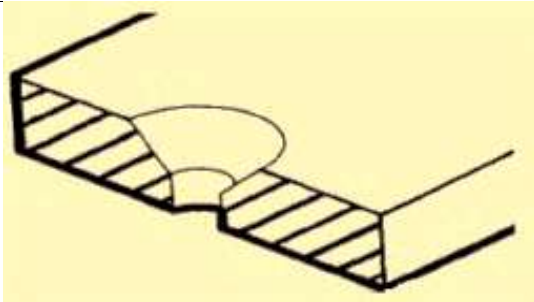

Figure 4-38. Countersunk hole.
**Countersink:** Is the tapering or beveling of the end of a hole with a conical cutter called a machine countersink. Often a hole is slightly countersunk to guide pins which are to be driven into the workpiece; but more commonly, countersinking is used to form recesses for flathead screws (Figure 4-38) and is similar to counterboring.